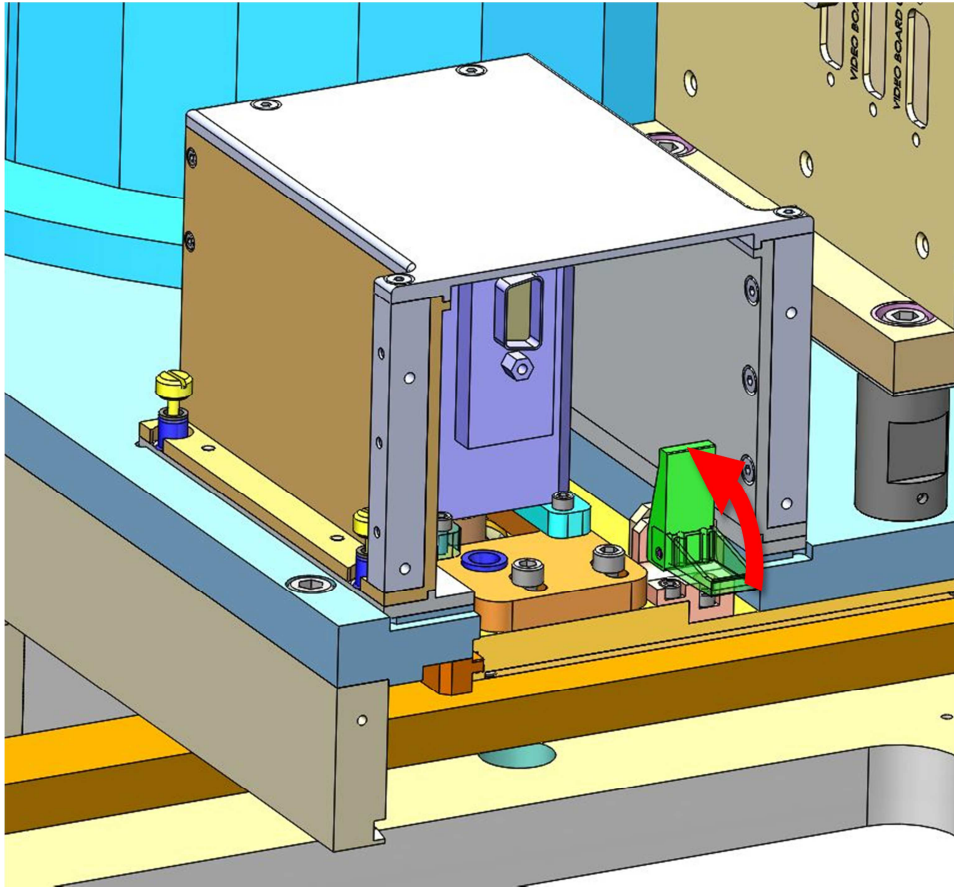

Figure 9
5. Turn the shutter lever arm as shown in Figure 9 to lock the shutter in position